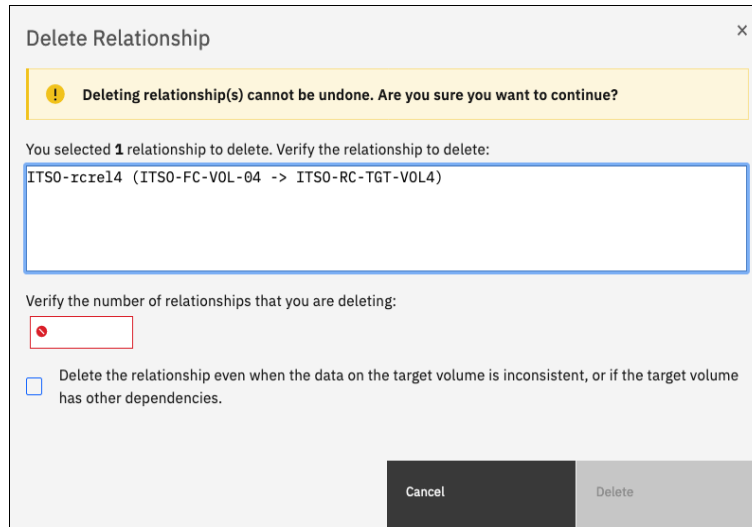

Figure 10-146 Confirming a relationship deletion
3. A confirmation message appears that requests that the user enter the number of relationships to be deleted, as shown in Figure 10-146.